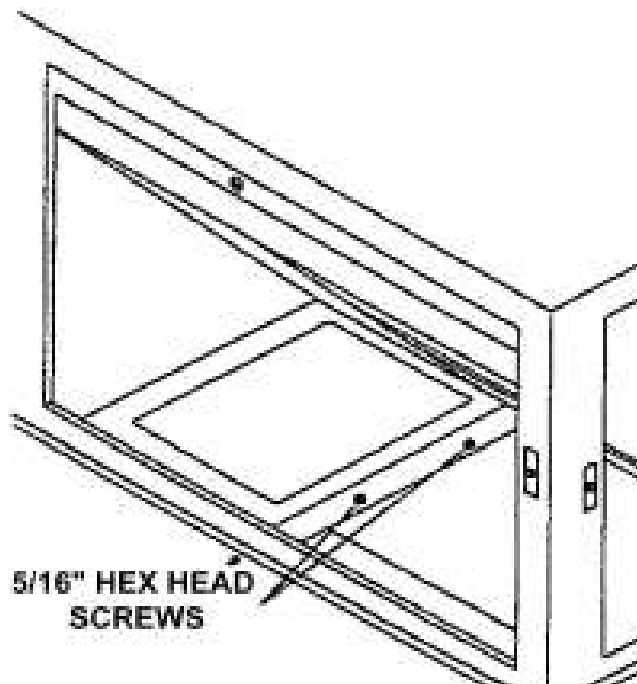

**Figure 10 - Re-installing the center support bracket**
9. On 20 and 25 ton units: install the two support brackets previously removed. See Figure 10.